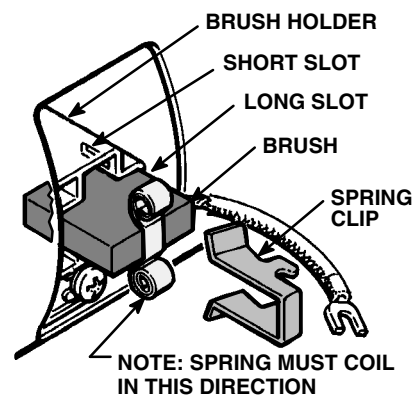

Fig 23-4
6. Place a new brush in the holder so the lead is in the long slot of the holder. Slide the terminal under the terminal screw washer. Ensure the motor lead is still connected at the screw. Refer to Fig 23-4.
7. Place the spring on the brush as shown in Fig 23-4. Do not install backwards to avoid damage when the spring clip is installed.
8. Install the spring clip and push it down until its hooks catch the short slots in the housing. Refer to Fig 23-4. Incorrect installation may jam the clip.